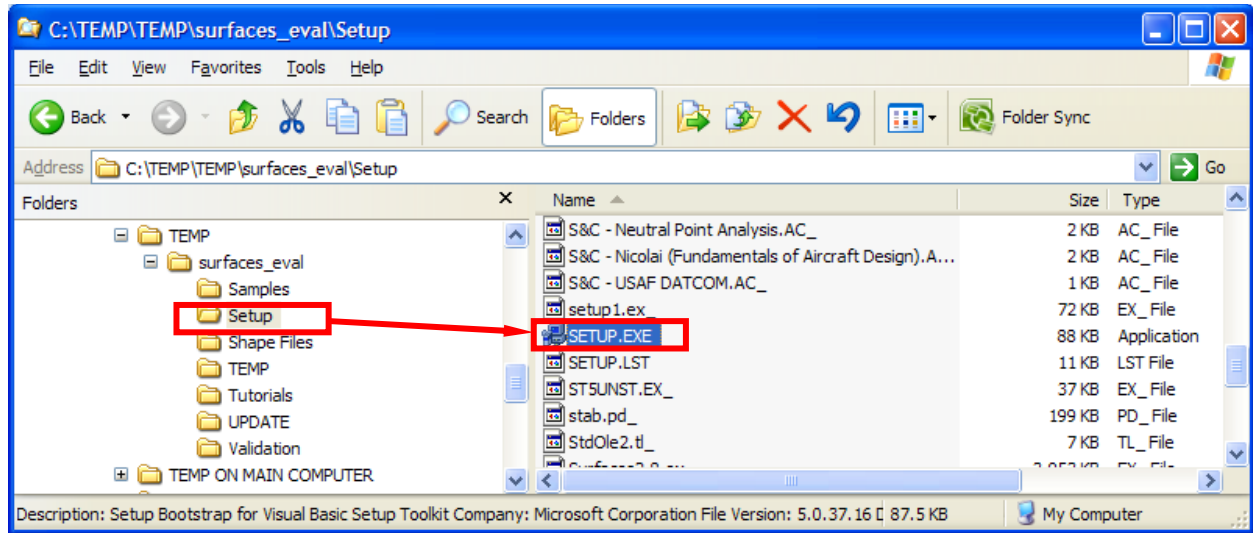

**Figure 2-1: Navigate to the folder where you extracted the installation files.**
STEP 2.1 Open Windows Explorer and navigate to the folder where you extracted the SURFACES installation files (see Figure 2-1).